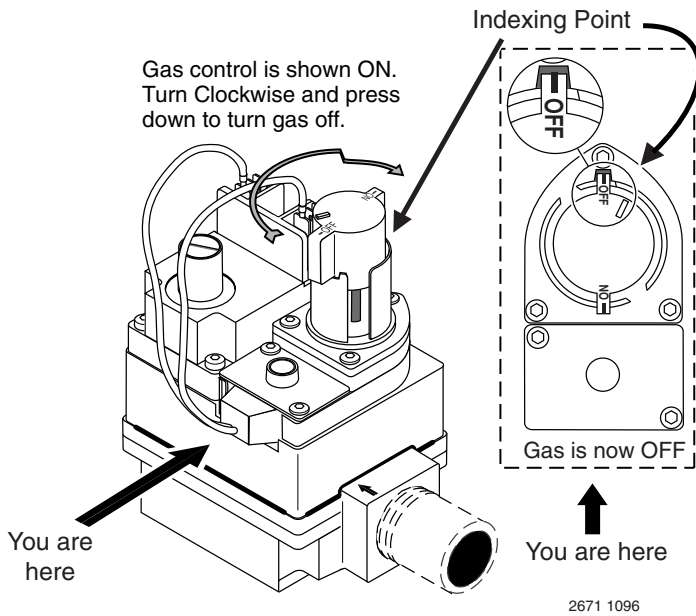

FIGURE 4: Turning gas control OFF
- Turn the knob on the gas control clockwise (↻) to the black line, depress slightly, and turn to "OFF" position. See Figure 4.